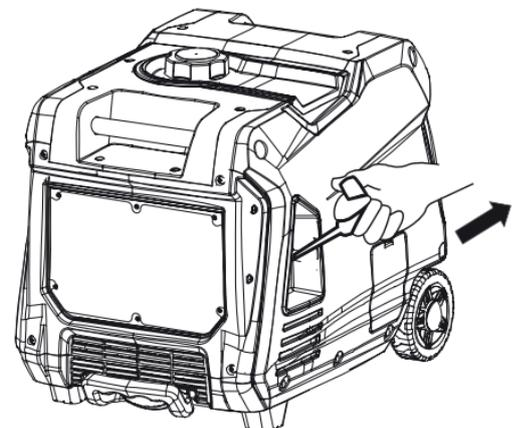

Figure 9: Pull the Recoil Handle out from Inverter 7.
6. Firmly grasp and pull the recoil handle slowly until you feel increased resistance. At this point, apply a rapid pull while pulling out from the inverter (see Figure 9). Plug in electronic devices.